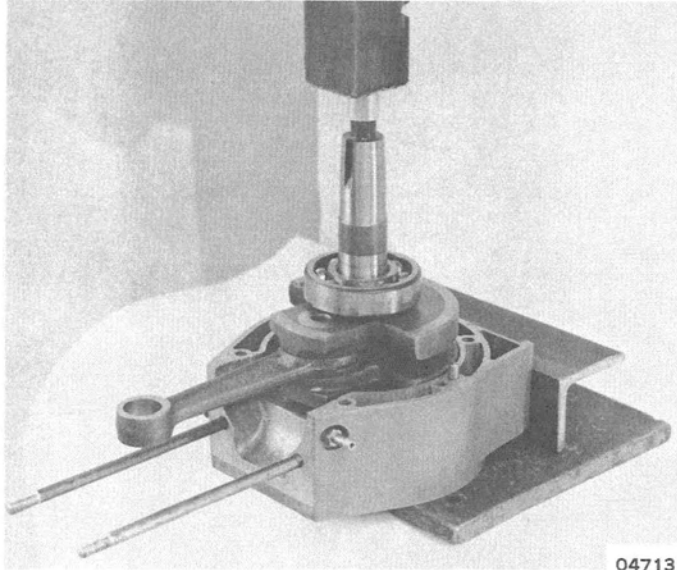

Figure 6. Crankshaft Installation
3. Oil crankshaft, then press it into bearing until snap ring groove is exposed. (Figure 6)